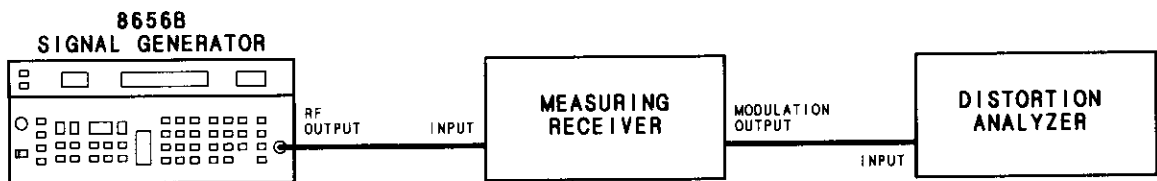

Figure 4-8. Modulation Test Setup
1. Connect the RF OUTPUT of the Signal Generator to the input of the measuring receiver as shown in Figure 4-8.
2. Connect the modulation output of the measuring receiver to the input of the distortion analyzer as shown in figure 4-8.